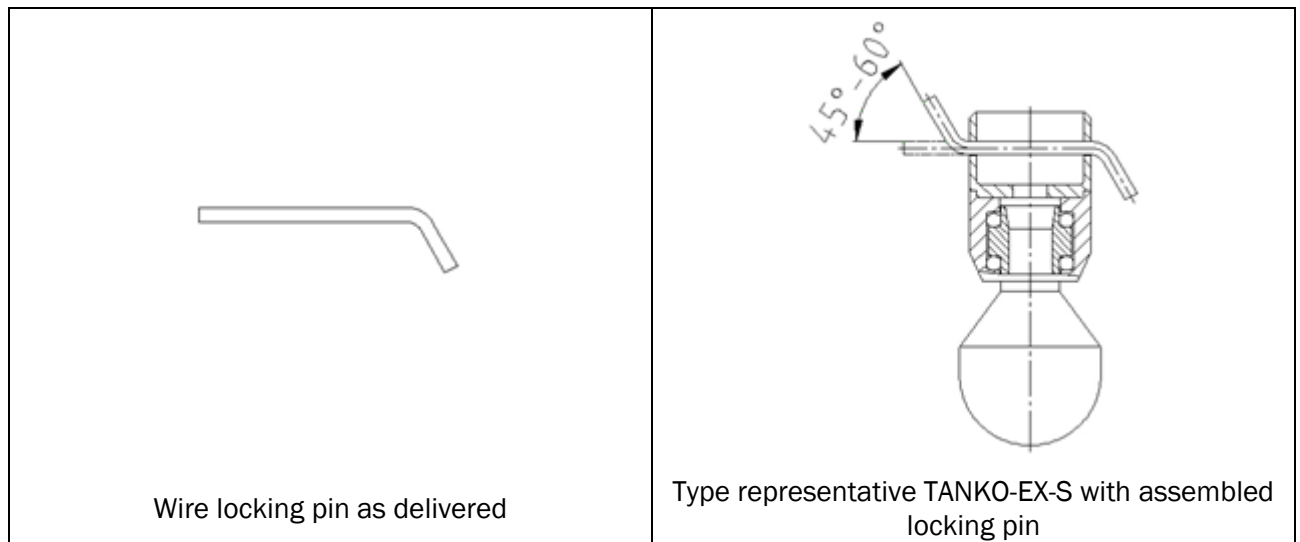

Figure 5.2-5: Clip-on Installation
3. Bend the straight end of the wire locking pin with the assembly/disassembly tool for the locking pin by at least 45° (see Figure 5.2-5: Clip-on Installation).